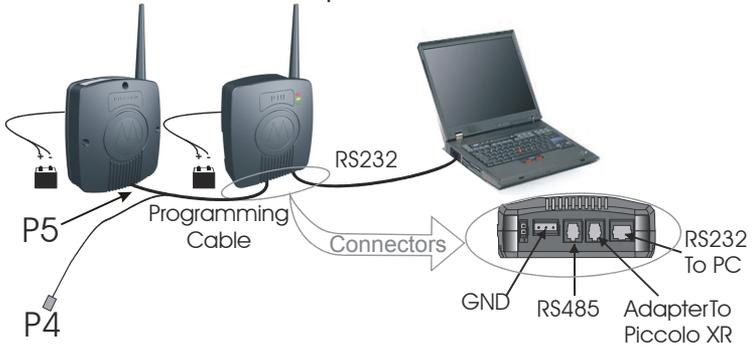

Figure 22
1. Connect the PIU adapter RS232 port to the computer with the FTN6597A cable (see Figure 22).